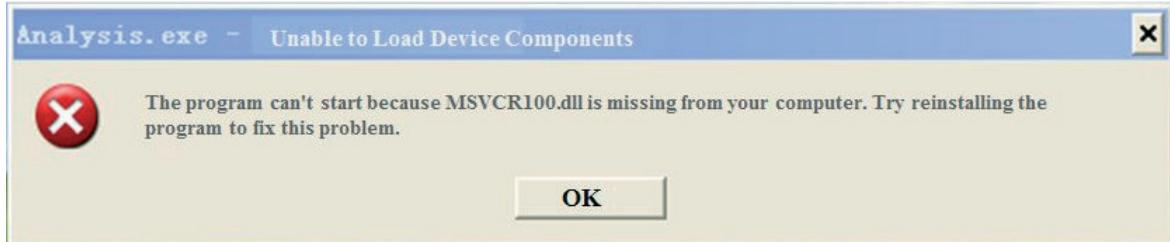

Figure 2-19
- a. Double-click the shortcut to run the program. If the error 1 prompt “MSVCR100.DLL cannot be found” occurs, See Figure 2-19 to 2-20: